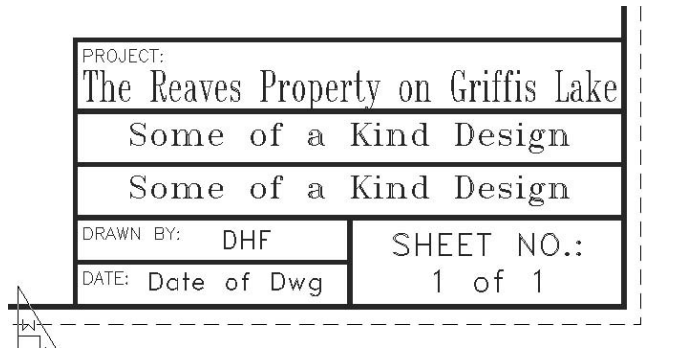

FIGURE B.20: The project-title text completed
15. Close the Properties palette and press Esc to remove the grips. The title block should look like Figure B.20. You can see how the letters of this line of text have been compressed to fit within the space allotted.